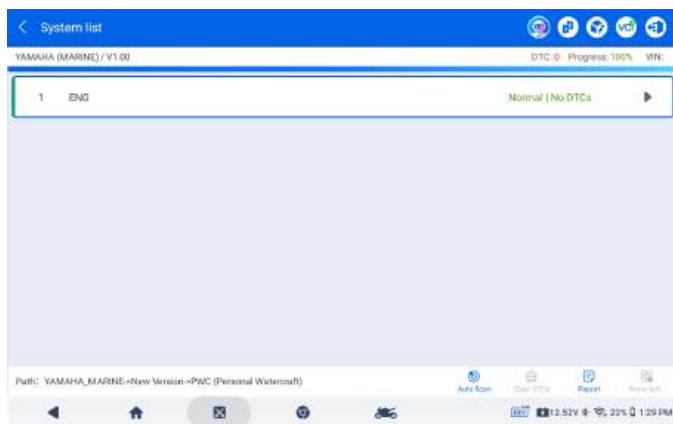

Figure 6-2
5. The results can be viewed in a list (see Figure 6-2). The List displays all systems configured on the vehicle. Systems with DTCs detected are marked with a red triangle and the number of DTCs, while systems without DTCs are labeled **Normal | No DTCs**.